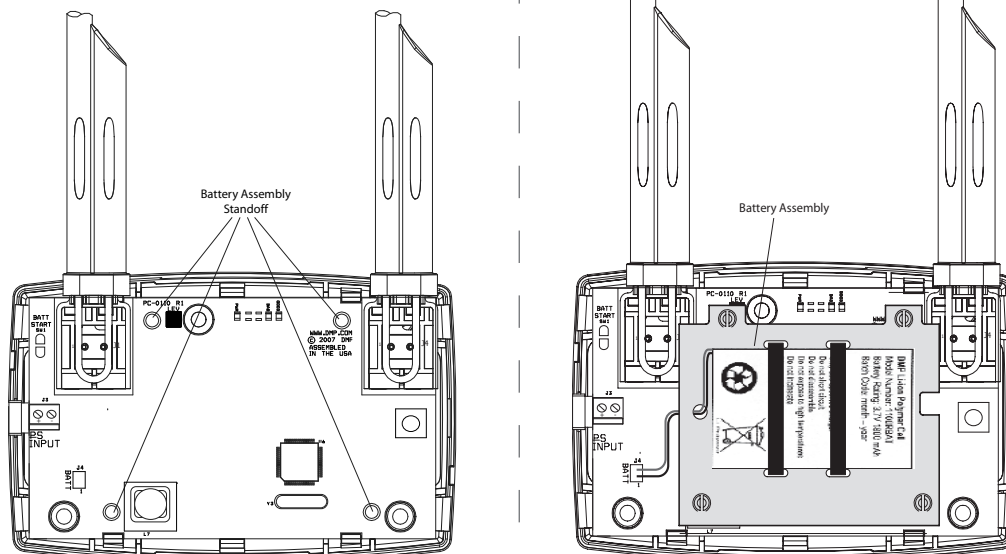

Figure 4: Battery Assembly
1. Place the new battery and secure with the battery straps. See Figure 4.